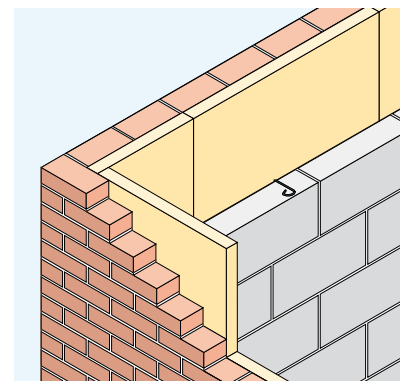

Figure 5 Batt's close butted at corners
- 12 Fit the batts closely around wall openings. Slit the batts neatly where additional wall ties occur. Do not impale or tear them. At corner joints, edges must be cut accurately to ensure close butting (see Fig 5).